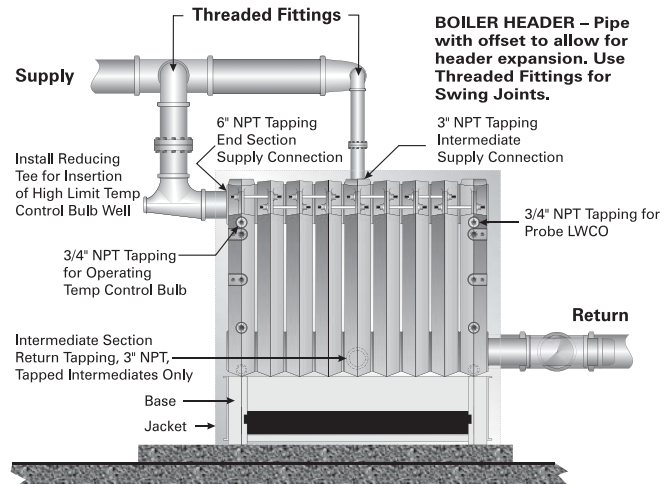
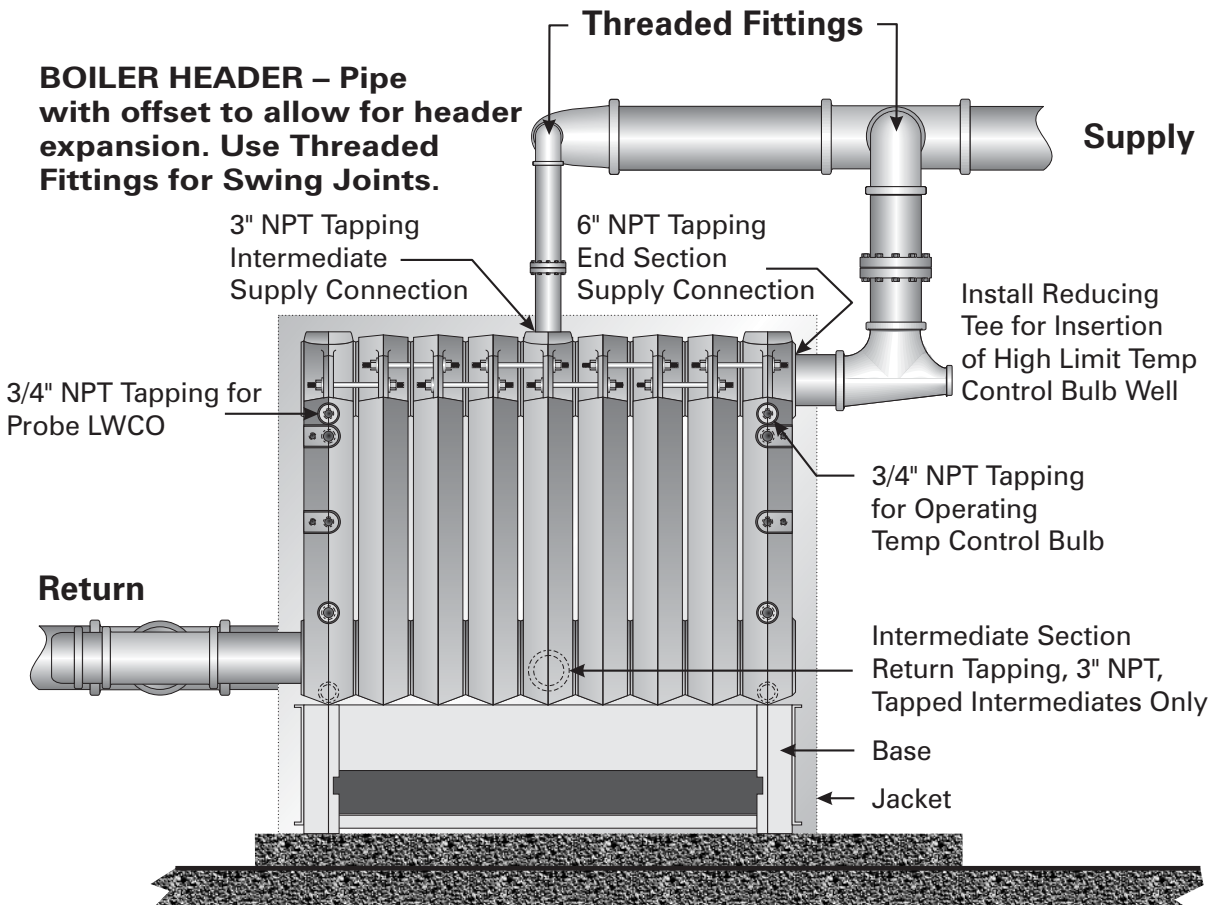

Figure 5.2: Alternate Piping, Left End Supply
Figure 5.1: Piping Detail, Right End Supply (Tapped Intermediate Used on 211A-29 & Larger)
1. Always locate the return connection on the end of the boiler opposite the supply connection. Pipe the supply on the right end as shown in Figure 5.1 or on the left as shown in Figure 5.2.